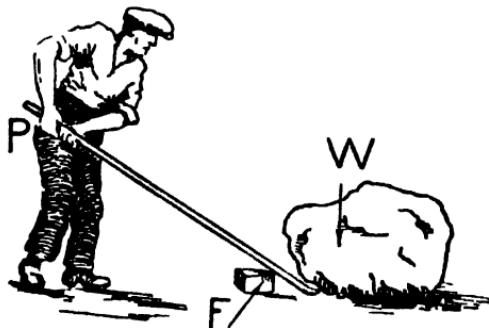

Fig. 76.
**I. The lever.** A lever is generally a stiff rigid rod. A **crowbar** is one of the simplest of levers. Fig. 76 illustrates a crowbar
Therefore in order to move the stone the man in Fig. 76 would only have to exert a force just a little more than one-tenth the weight of the stone.